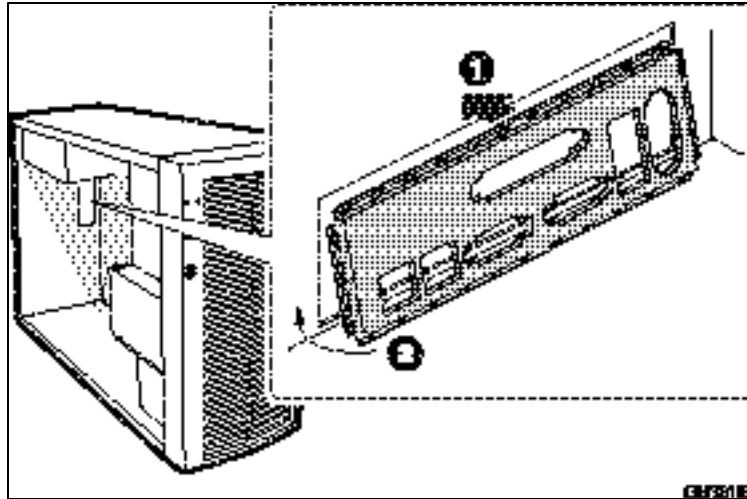

Figure 5. Installing the I/O Shield
3. Align the pins of the processor with the socket as shown in Figure 5, and insert the processor into the socket. Lower the locking bar completely.